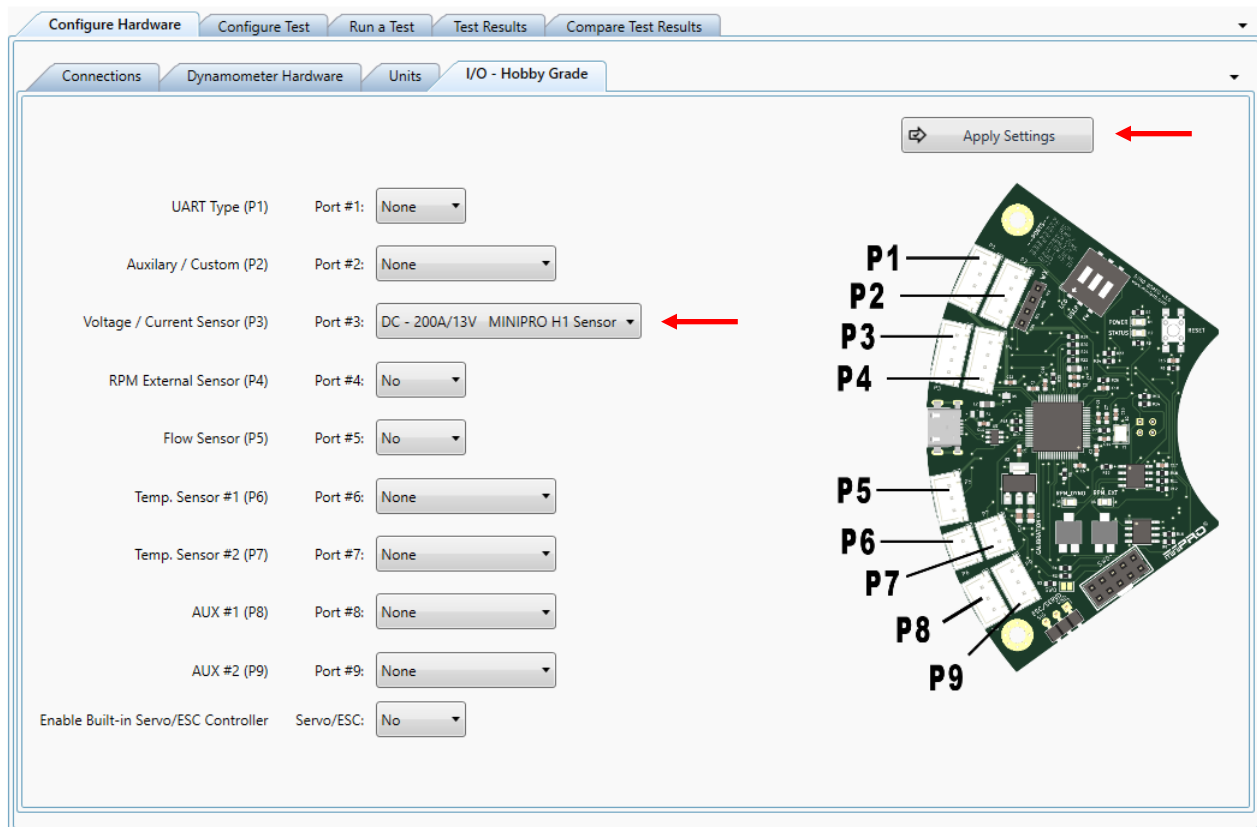

Figure 7: H1 Sensor - I/O Configuration
13. Select the Voltage and Current sensor from Port #3 drop-down option (see Figure 7).